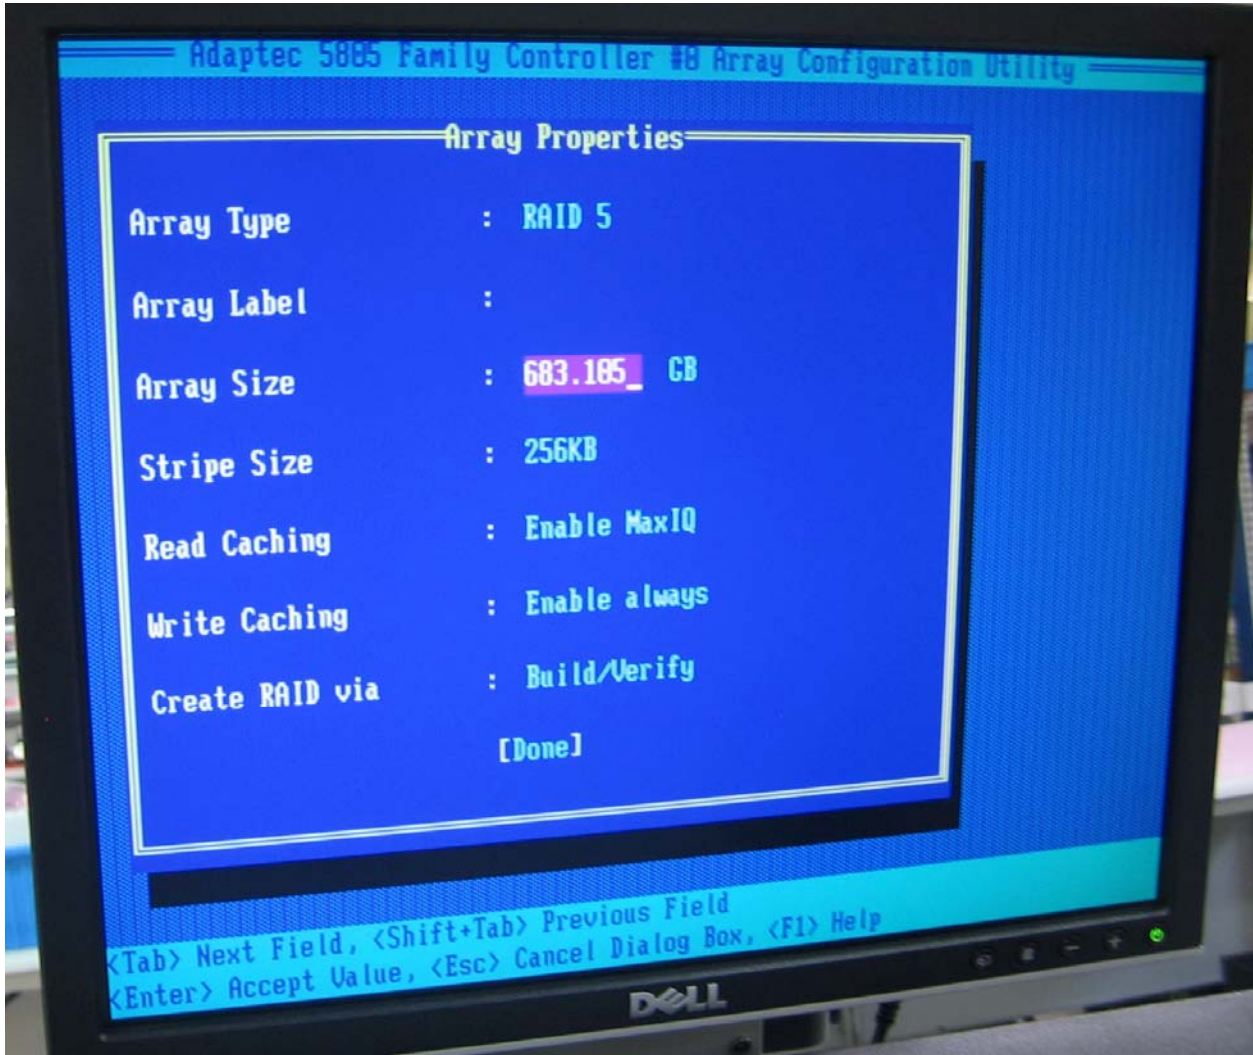

Figure 7-10 Array Size
12. **Array Size** Press **Enter**, then press **Enter** again to use the default granularity of GB. (Figure 7-10).